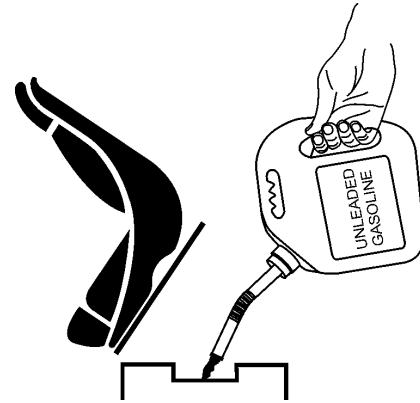

Figure 12. Adding Fuel
5. Pay attention to the fuel tank capacity when replenishing fuel (Figure 12). Refer to the fuel tank capacity listed on the specifications table.